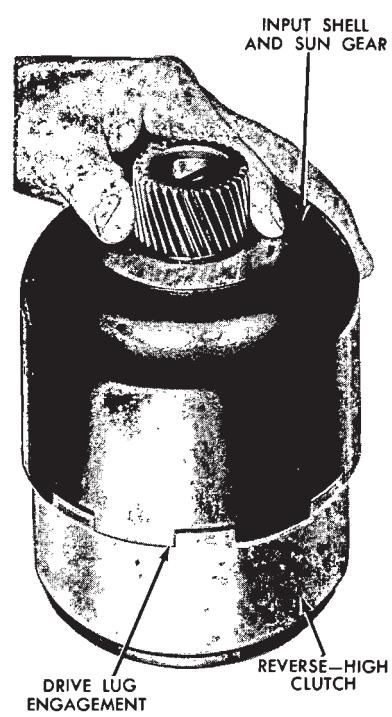

FIG. 109—Installing Input Shell and Sun Gear
27. Install the input shell and sun gear on the gear train (Fig. 109). Rotate the input shell to engage the drive lugs of the reverse-high clutch. If the drive lugs will not engage, the